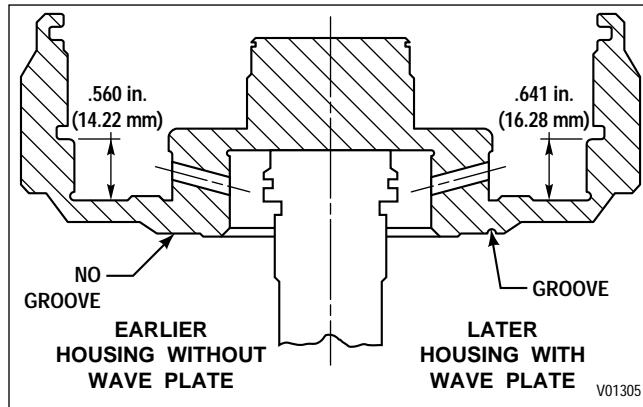

Figure 6-36. Forward Clutch Housing Identification
- **Models that have the wave plate in the forward clutch assembly use a clutch housing marked with an identification groove (Figure 6-36).**